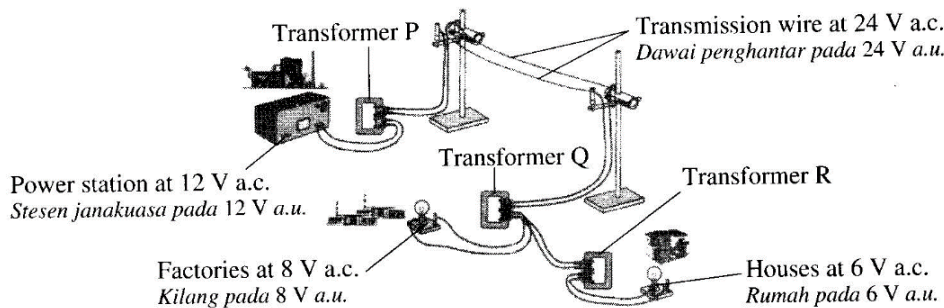

Figure 12.1
93. Figure 12.1 shows how a model of an electric transformer system can be set up in a laboratory. The model consists of a power station that generates 12 V of alternating current (ac) that transmits the electrical energy to the users using transmission wires and transformers P, Q and R.